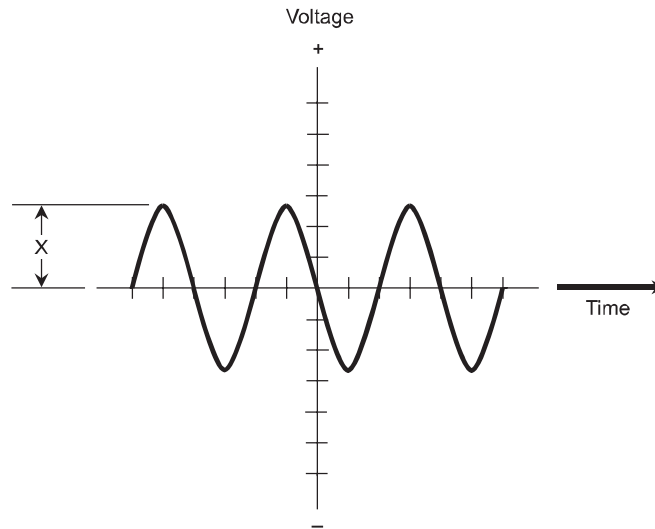

Fig. Test2-1. Illustration for Part Two Test Questions 4 and 5.
4. In Fig. Test2-1, the displacement marked X portrays
5. In Fig. Test2-1, suppose each horizontal division represents 1 ms (0.001 s). The frequency of the sine wave is